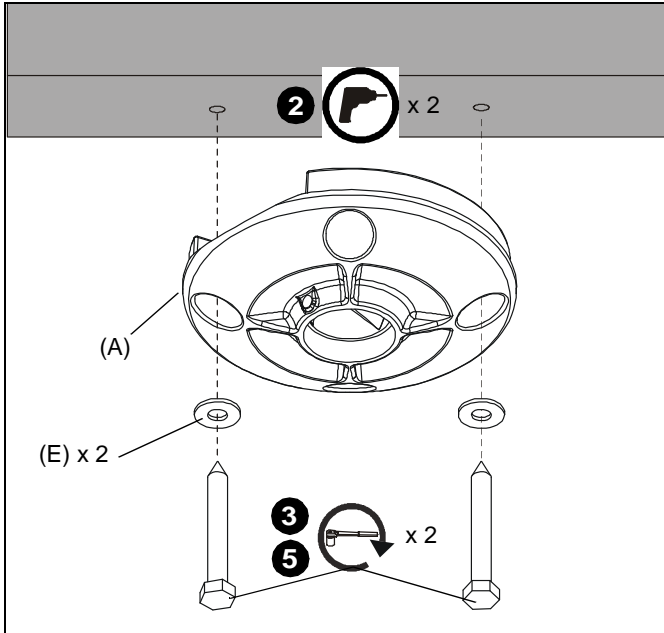

Figure 2
2. Drill 1/4" diameter pilot holes into wood joist (See Figure 2). Ensure pilot holes are straight.
3. Using 9/16" socket wrench, loosely install two (minimum) Grade 2 (not included) 3/8" x 2-1/2" lag screws through 3/8" washers (E), ceiling plate (A), into wood joist (See Figure 2). Do not tighten plate (A) against ceiling at this time to accommodate cable installation.
5. Tighten lag screws (See Figure 2).